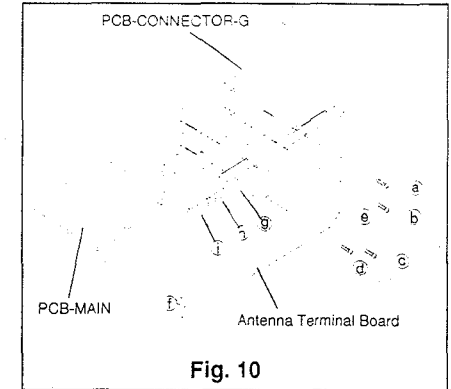

Fig. 10
- (2) Remove four screws (a, b, c and d), unfasten five catches (e~i) on the Antenna Terminal Board as shown in Fig.10, and remove the Antenna Terminal Board.
- (3) Raise the PCB-CONNECTOR-G upward to remove it.